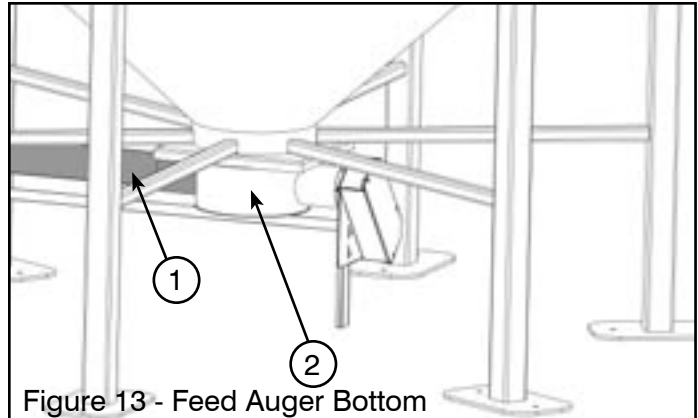
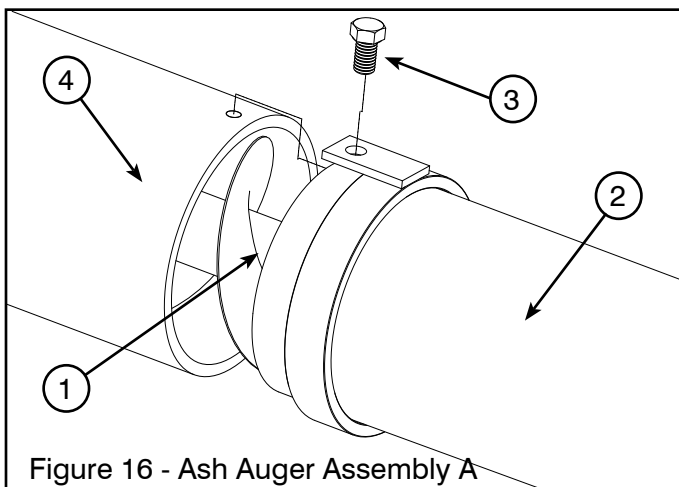

Figure 13 - Feed Auger Bottom
Figure 16 - Ash Auger Assembly A
1. Slide the feed auger tube (1, Fig. 13) through fuel hopper discharge boot (2, Fig. 13).
1. Insert the ash auger shaft (1, Fig. 16) into the ash auger discharge tube (4, Fig. 13) ensuring the square hub is on the square shaft.
2. Slide the ash auger extension tube (2, Fig. 16) over the auger extension shaft and flighting.
3. Secure the ash auger extension tube to the discharge auger tube with a 3/8" x 1/2" hex bolt (3, Fig. 16).